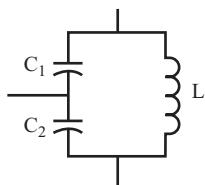

FIGURE 9.36
- 5.** Choose a capacitor C_2 that is between 3 and 10 times the value of C_i . Figure 9.36 shows the two capacitors and the coil connected in a parallel circuit, with the two capacitors acting as a voltage divider.